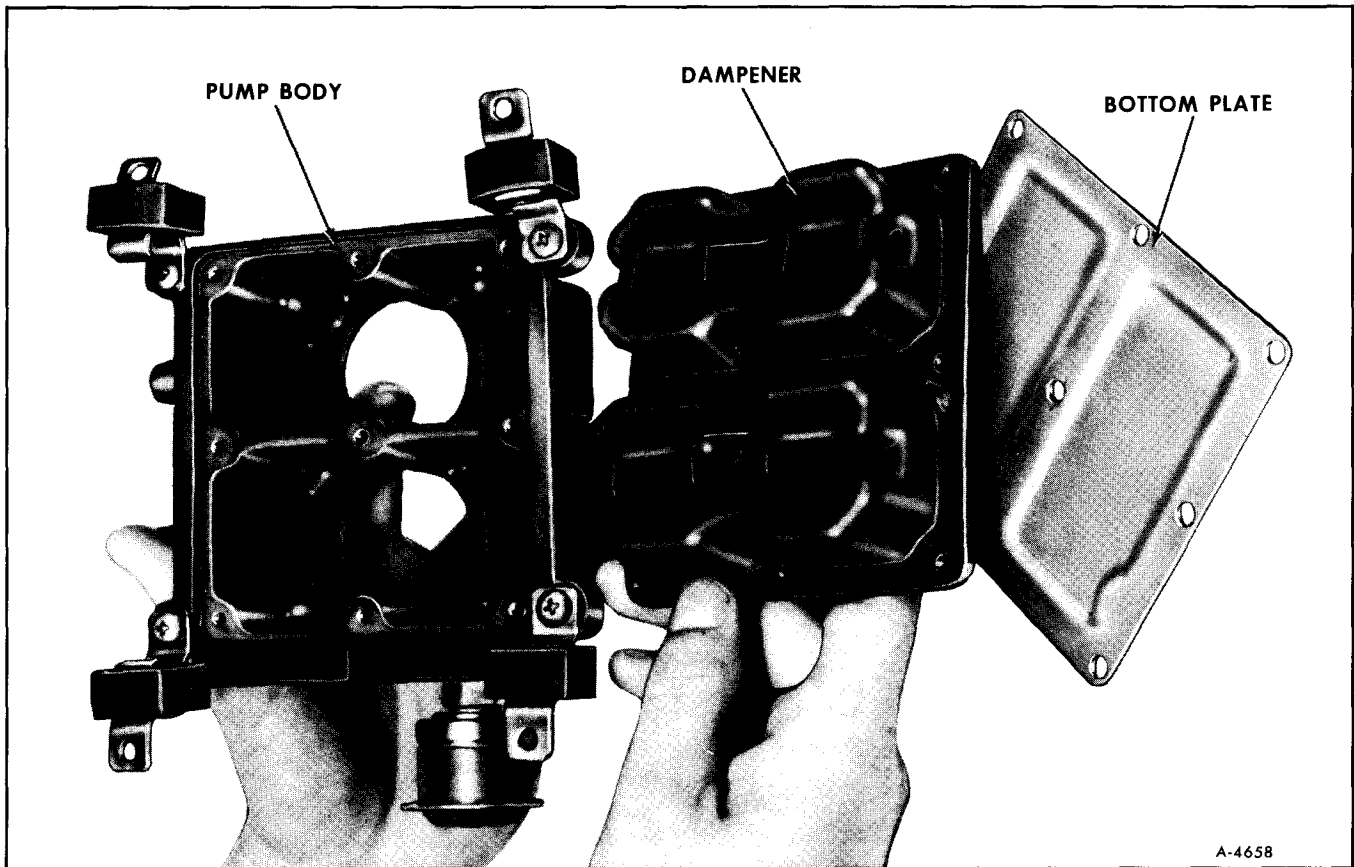

Figure 21—Inspecting Dampener
6. Inspect dampener for excessive deformation, ruptures and cuts (figure 21).